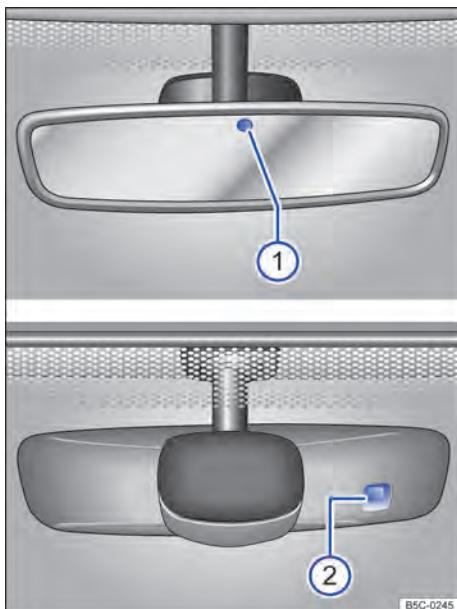

Fig. 69 On the windscreen: automatic anti-dazzle interior mirror.
→ **Fig. 69** of the rain sensor are among others the following:
When the ignition is turned on the sensors measure the light incidence. There are 2 sensors in the interior mirror, one that measures the incidence of light from the front → **Fig. 69** ① and the other the light incidence from behind ②. According to the measured results the internal mirror is automatically darkened.